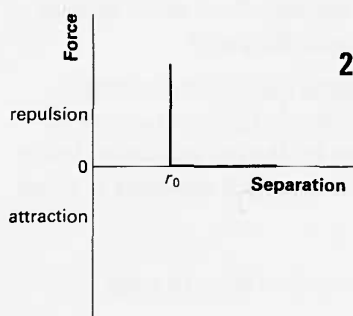

Figure A96
- 25(I)** Figure A96 shows the force–separation curve for two identical perfectly hard spheres.